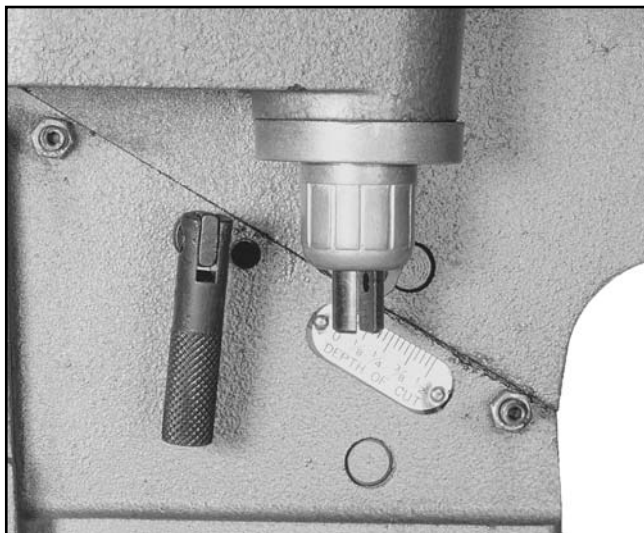

Figure 11. Spring housing.
1. The cutterhead guard pivot shaft is slotted on the end. This slot fits over the tang at the end of a spring located in the spring housing. **See Figure 11.** Look down the pivot hole to get an idea where this tang is located.